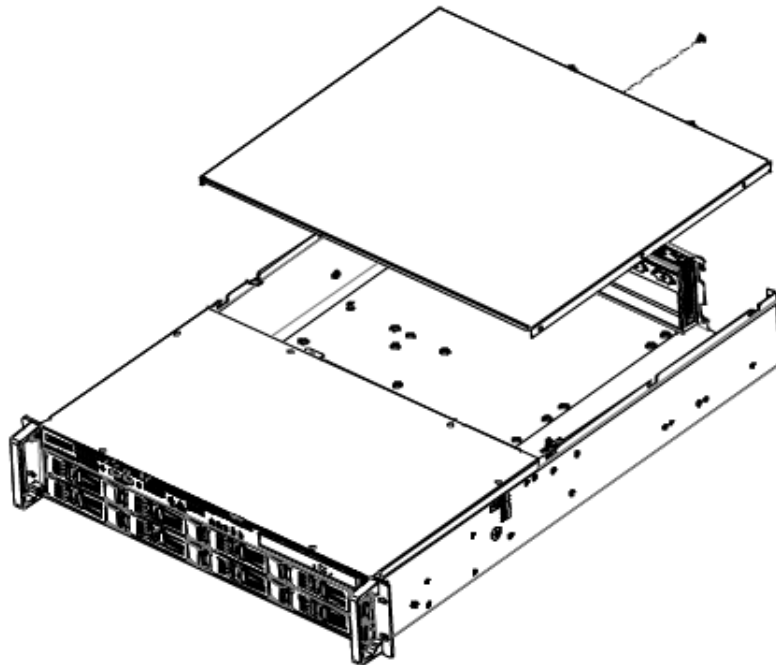

Figure 2.1 Removing the rear top cover/ 移除后顶盖 / 移除後上蓋
2. Lift up the front top cover to remove it (see Figure 2.1).
2. 将前顶盖向上抬起（如图 2.1 所示）。
2. Slide the rear top cover backwards before lifting up to remove it (see Figure 2.1).